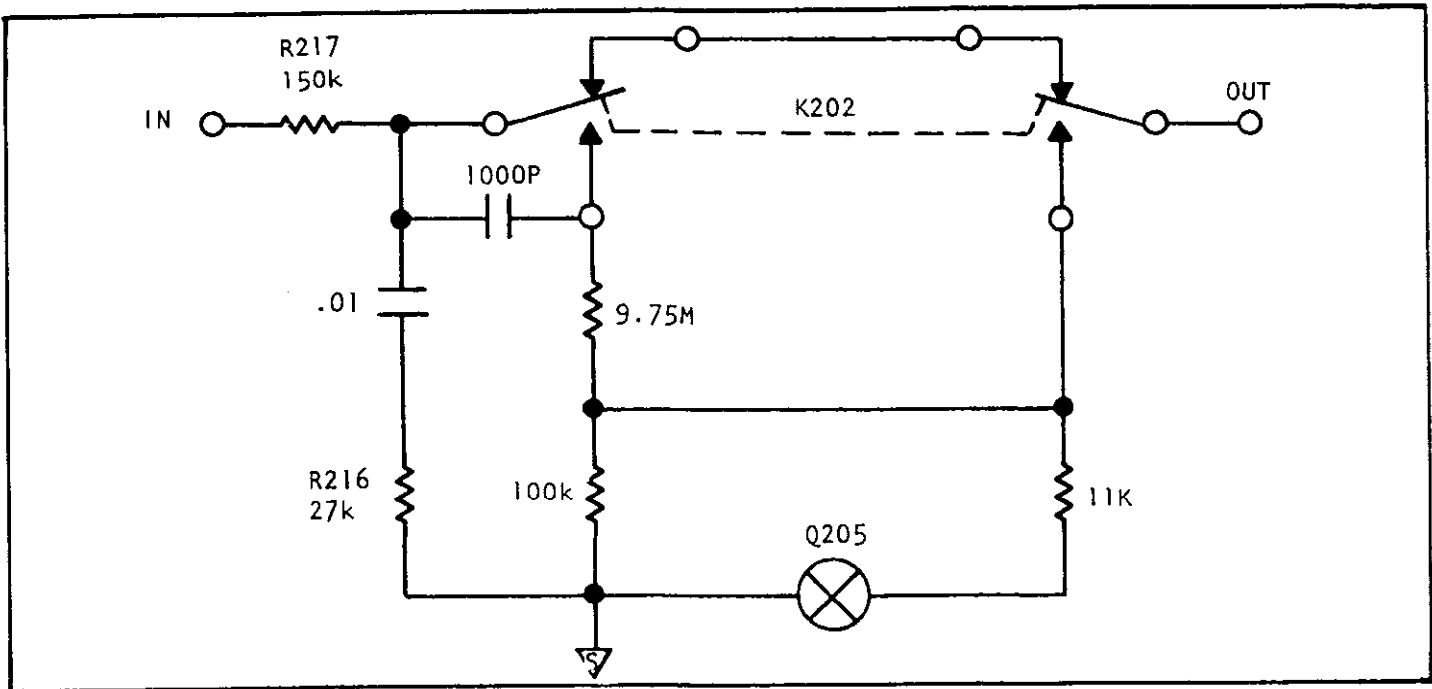

FIGURE 5-3. Simplified Schematic of DC Attenuator.
1) The dc attenuator is shown on the simplified schematic (Figure 5-3). On the 300mV and 3V ranges, K202 is de-energized as shown and no attenuation occurs. Above ±3 volts, K202 will energize. This means that the output on the 30V and 300V ranges will be 1/100 of the input as derived from the following equation.